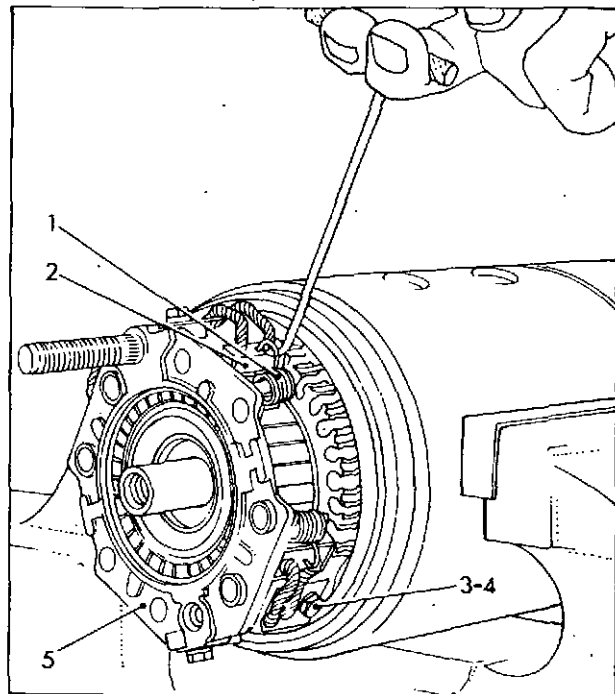

Fig. 3 Removing brushgear
Brushgear (fig. 3)
Lift each brush spring (1) fig. 3 in turn and remove the brush (2) from holder. Remove the screws (3) and